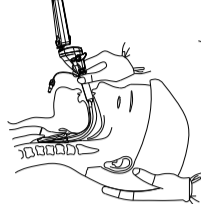

Figure 3.1.3
3. If necessary, rotate the display apparatus to ensure its image remains visible as its angle changes during laryngeal mask insertion. Resistance should be felt when the distal end of the cuff pressed to the upper esophageal sphincter. Press down the angulation handle on the videoscope to tilt the camera angle upward, lift the handle to tilt the camera downward. If laryngeal mask is in proper position. glottis opening and its surrounding tissue should be visible on screen in full. See figure 3.1.3 .